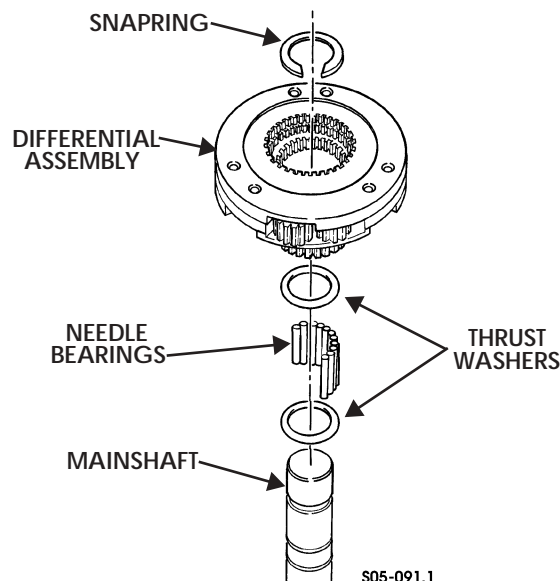

Figure 5-176: Mainshaft
12. Install rear thrust washer on front of mainshaft (Figure 5-176).